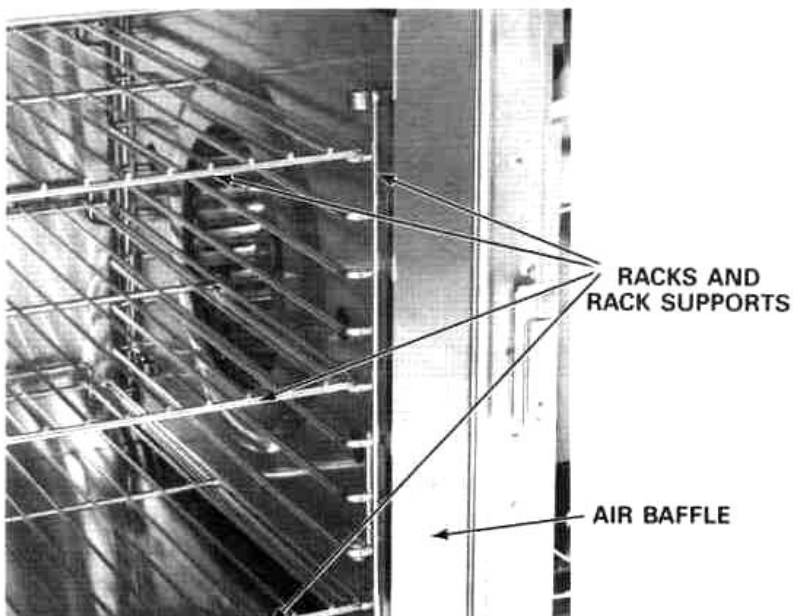

Figure 16
2. Remove the racks and rack supports. (See Figure 16)
3. Remove the interior air baffle by lifting at the bottom and pulling forward. (See Figure 16)